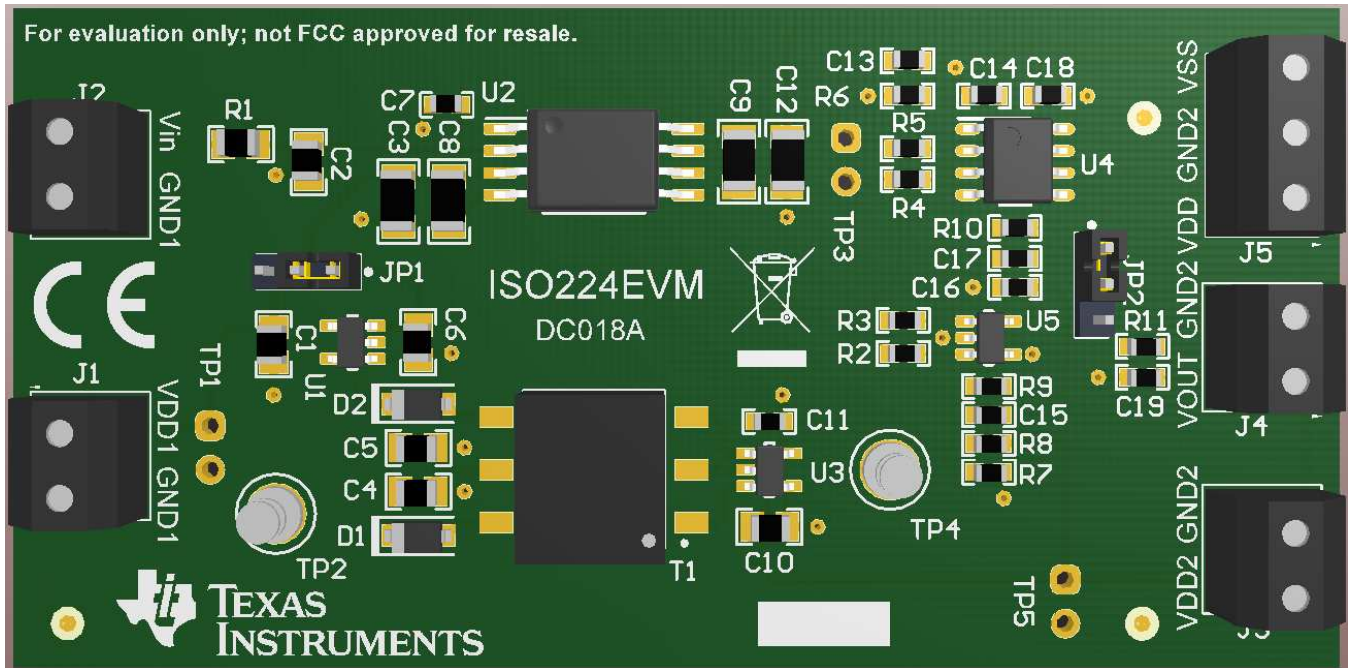

Figure 5. ISO224EVM Silkscreen Drawing
Figure 5 shows the ISO224 PCB layout.
**NOTE:** Board layout is not to scale. Figure 5 shows how the board is laid out. It is not intended to be used for manufacturing ISO224EVM PCBs.